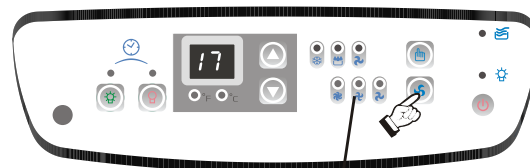

Fig. 12
- 5) Press the **FAN** key to select the desired fan speed setting (**High-Med-Low**). See Fig.12. Each depression of the fan key will advance to a different setting.